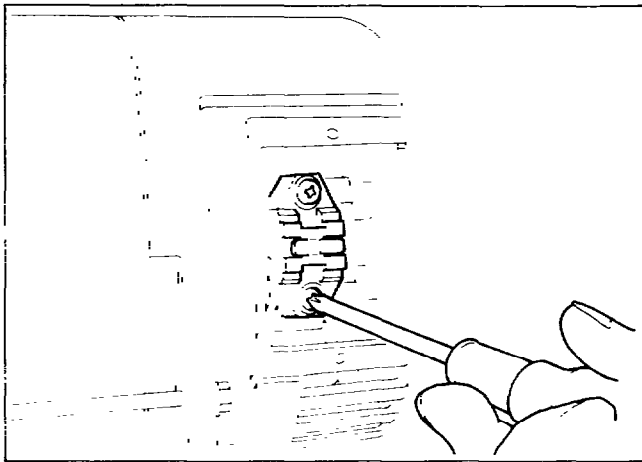

Fig. 10-10
(2) Remove the brush holders. (See Fig. 10-10.) Disconnect the terminals wired to the brushes before removing the brush holders. 5φ screw . . . 2 pcs.	Be sure to remove the brush holders first because if the rear cover is removed from the generator without removing the brush holders, the brushes will break.